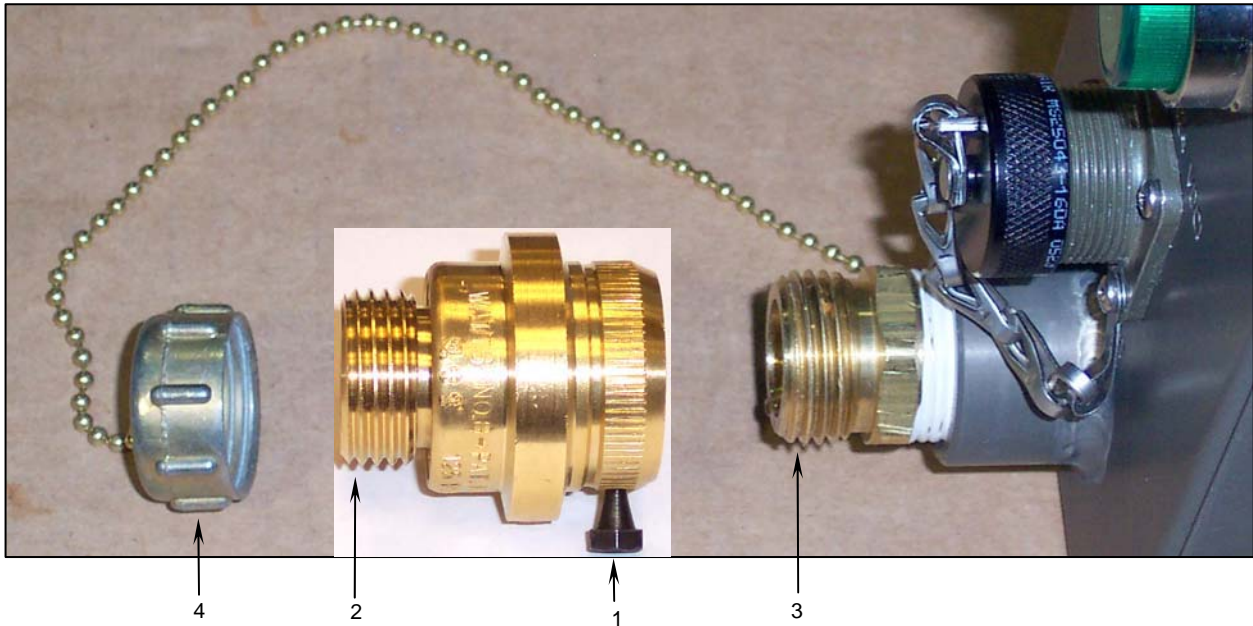

Figure 4. Installing the New Sink Fill Pump Assembly Vacuum Breaker.
- a. Remove and retain the set screw (**Figure 4, Item 1**) from the new vacuum breaker (**Figure 4, Item 2**).
- b. Apply sealing compound to the threads of the straight adapter (**Figure 4, Item 3**).
- c. Thread the new vacuum breaker (**Figure 4, Item 2**) all the way onto the adapter (**Figure 4, Item 3**).
- d. Reinstall the set screw (**Figure 4, Item 1**) and tighten until it is snug.
- e. Screw the water outlet cap (**Figure 4, Item 4**) onto the new vacuum breaker.